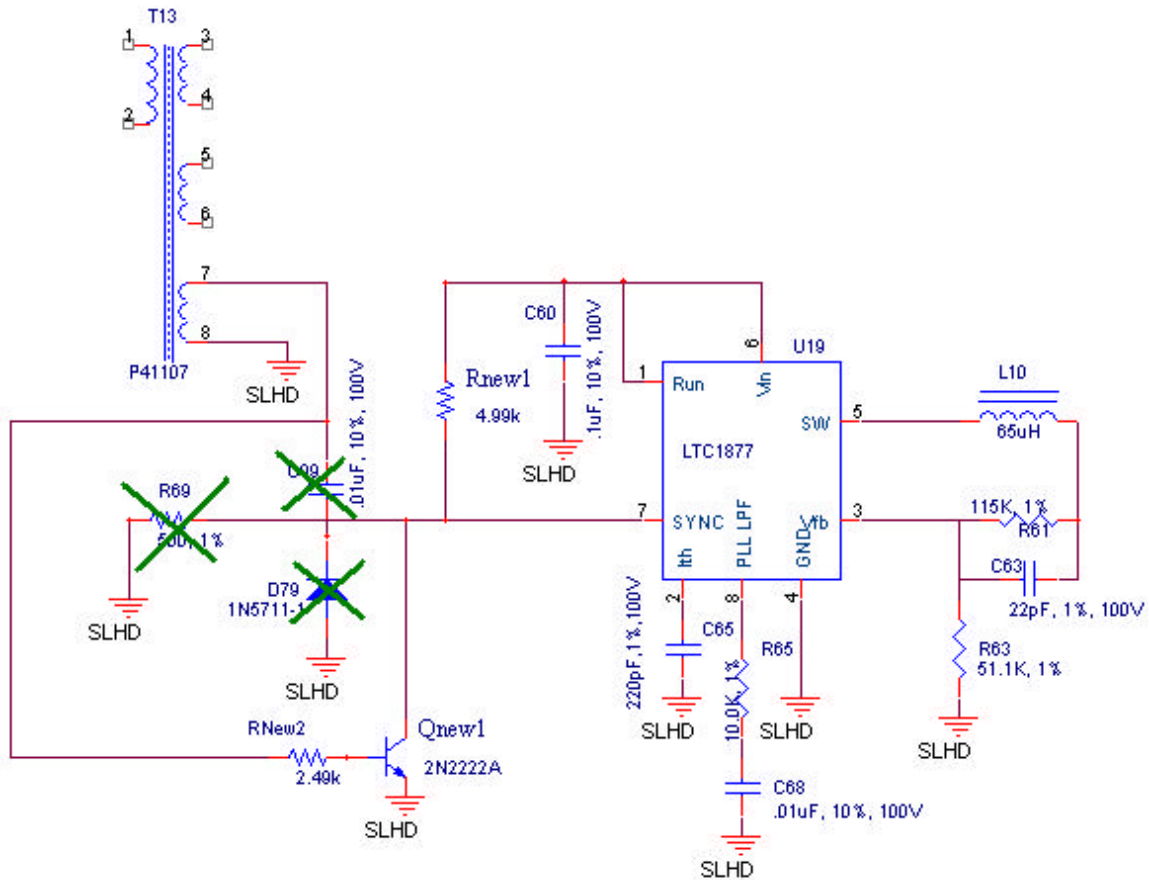

Figure 1: SEP LVPS Top board Schematic
4. Install a 2N2222A transistor as shown in Figure 1.